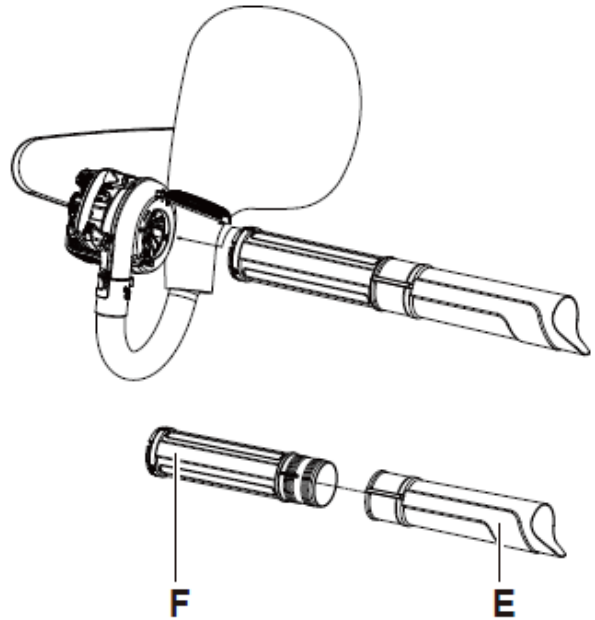

Fig. 7
- 4) Assemble the lower vacuum tube (E) onto the upper vacuum tube (F), then insert the assembled vacuum tubes into the machine. Turn tubes clockwise until vacuum tubes lock into place (Fig.7) .
- 1) Then turn the whole vacuum tube counterclockwise out of the machine and turn the E and F parts of the whole vacuum tube away. (Fig.7)